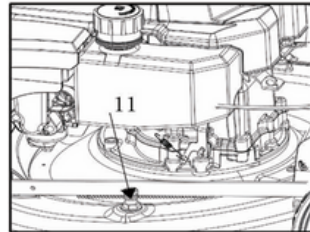

Fig. 26
2. Wash the deck on a level surface with good drainage. Connect a garden hose to the water connection (11) on the mower deck (Fig. 26).
4. Pull the brake lever (3) and hold it against the upper handle (2), then gently pull the starter handle (28) to start the engine and the cutting blade (30).
5. Stop the engine by releasing the brake lever (3) when no more dirty water or debris is flowing from the bottom of the mower.